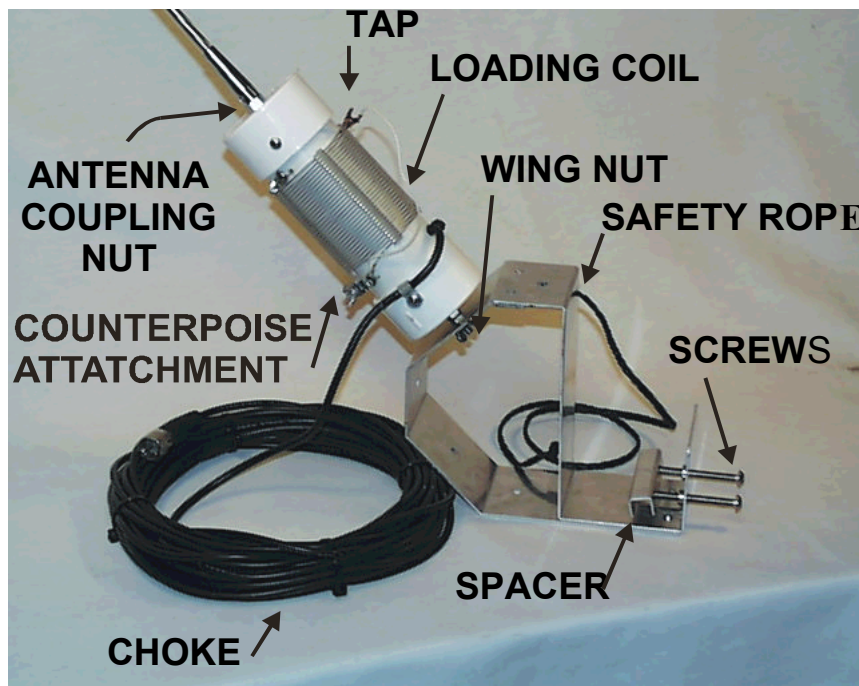

Figure 1
- [ ] 3. Screw the antenna into the coupling nut (shown in Figure 1) located on top of the coil assembly.
- [ ] 8. Use the three black wire ties supplied to tie the choke coils together. Space the ties out evenly around the circle. Figure 1 shows a picture of the finished choke.
- [ ] 9. Insert the 1/2" x 3/8" bolts into the threaded holes on the base plate approximately one inch as shown in Figure 1.
- [ ] 10. Place the spacer plate onto the bolts as indicated in Figure 1.
- [ ] 11. Push one end of the safety rope through the rope hole as indicated in Figure 1. Tie a knot on both ends of the rope to secure it.
5. Decide which mount hole will be used on the mounting bracket according to your situation. There are five holes available. Figure 1 indicates the possible hole positions.